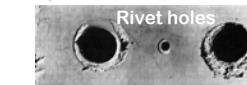

Fig. 17.6, Callister 6e. (Fig. 17.6 is courtesy LaQue Center for Corrosion Technology, Inc.)
**FIGURE 17.6** On this plate, which was immersed in seawater, crevice corrosion has occurred at the regions that were covered by washers. (Photograph courtesy of LaQue Center for Corrosion Technology, Inc.)